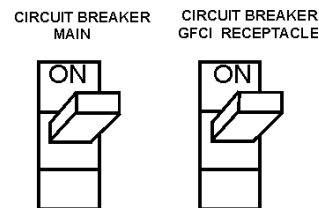

Figure 26. Circuit Breaker in 'ON' position
13. Once the engine is running and operating properly, switch the circuit breakers to 'ON' position (Figure 26).